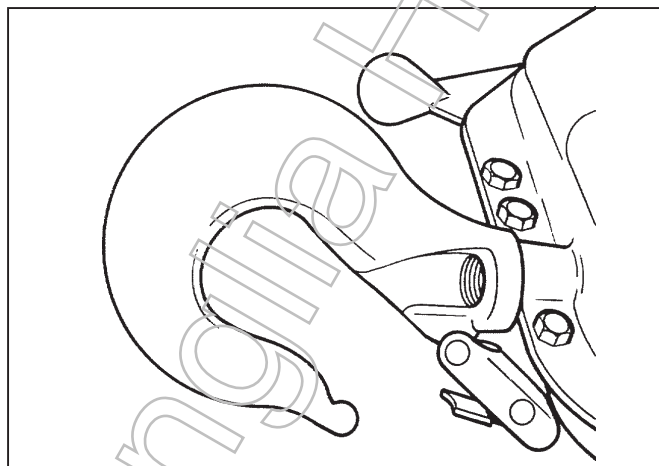
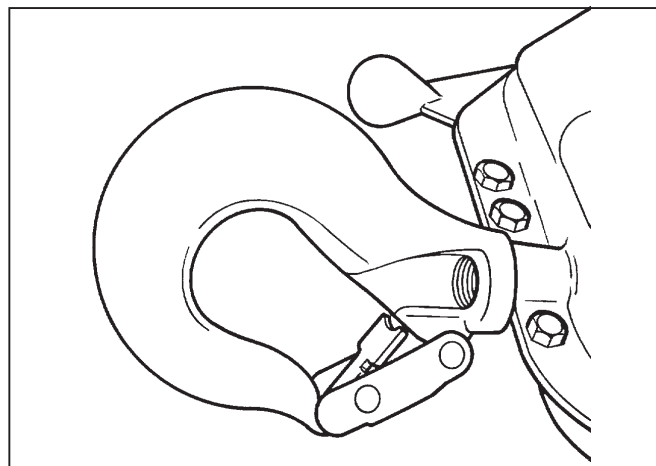

Fig. 15 - Machine anchor hook with catch in open position
Fig. 16 - Machine anchor hook with catch in closed position
The anchor arrangement on the model TU16H is a hook fitted with a safety catch (Fig. 15 and 16). In all cases, the anchor arrangement should always allow the safety catch to be closed correctly (Fig. 16). These same recommendations apply to the hook fitted to the wire rope.
**⚠ Warning ⚠** : It is essential for the safe operation of the machine to ensure that, before loading the machine, the anchor points, hooks or pins, are correctly secured, (with the safety catch correctly located on the hook - Fig. 16).